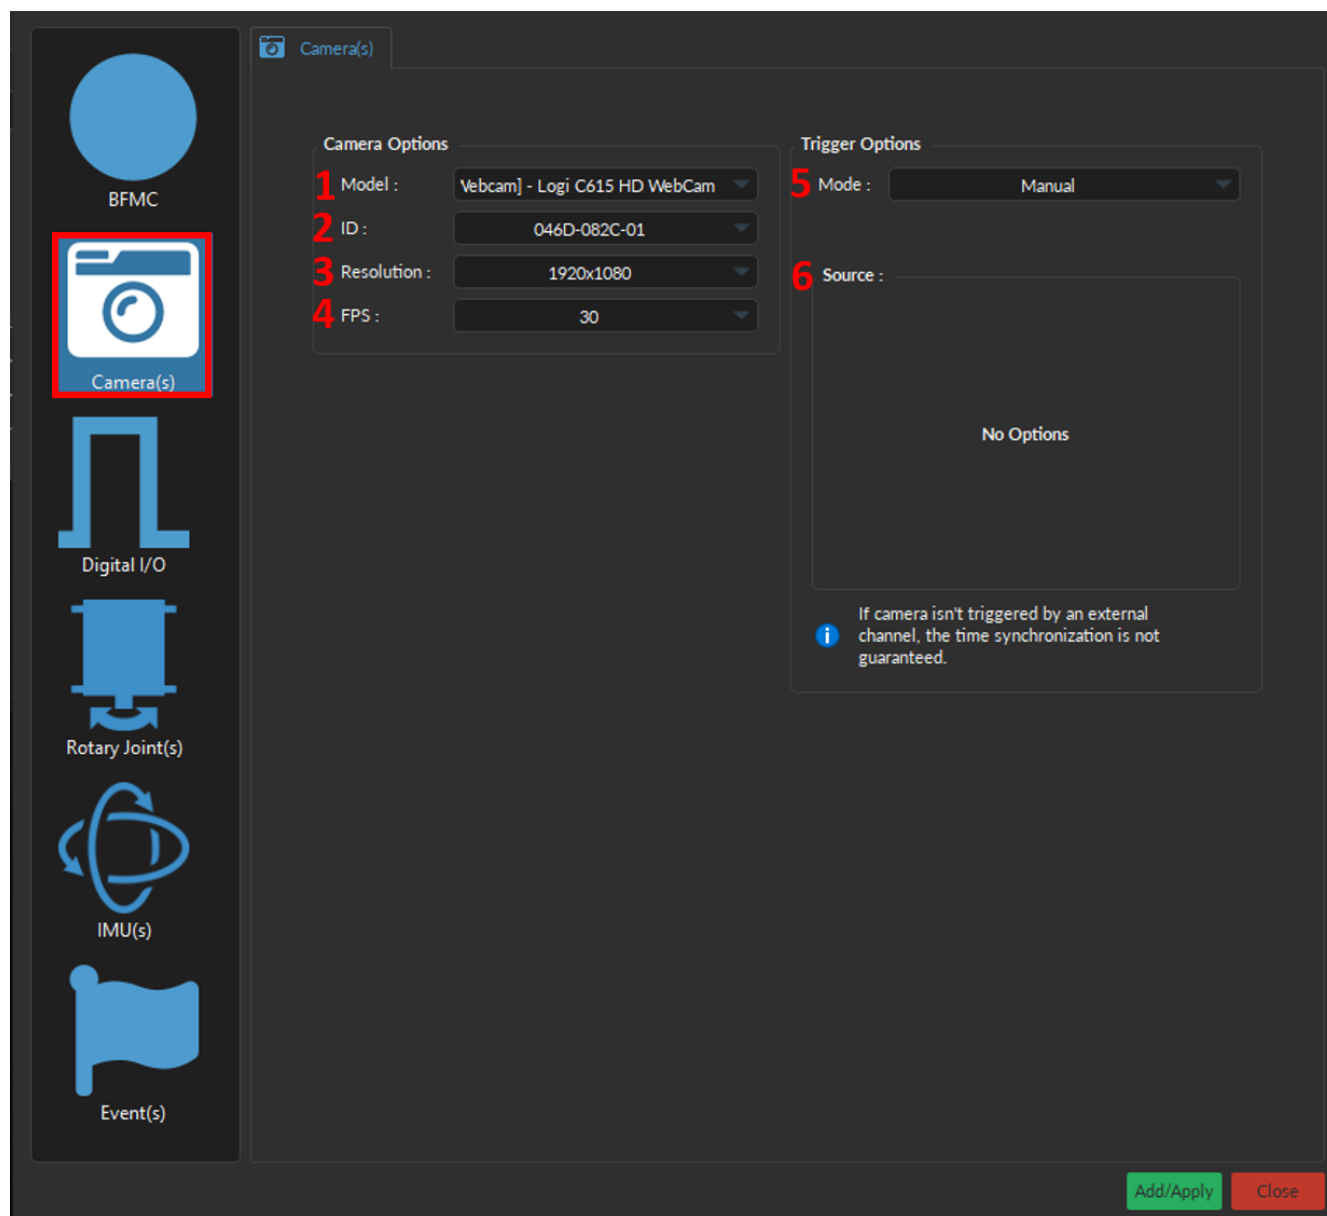

Figure 10.31: Channel(s) configuration window, Camera(s)
1. The **Model** (Fig. 10.31, 1) allows you to select the camera of choice based on the type of camera.
2. **ID** drop-down list (Fig. 10.31, 2) is used to select a camera based on its unique ID. The ID is beneficial when multiple cameras of the same model are required for the experiment.
3. The **Resolution** (Fig. 10.31, 3) is used to set the resolution of the image. The larger the number of pixels used for width x height, the better the resolution. Currently, image size can range between 160x120 to 1920x1080 pixels.
4. The **FPS** (Fig. 10.31, 4) is used to specify the frame rate of the camera (i.e. the number of images displayed per second). FPS can be any value between 5 to 30 for web cameras and up to 60 FPS for the *Doric Behavior Camera*.
5. The **Mode** (Fig. 10.31, 5) sets the type of trigger that will control the camera. Depending on the type of camera, at most three modes are available:
6. The **Source** (Fig. 10.31, 6 & Fig. 10.33) is only used for the **External (Preconfigured)** mode, and displays the **Digital I/O** channel with the preconfigured parameters that will be created at the same time as the **Camera Channel** (Fig. 10.33). For a detailed description of each Digital I/O parameter see Section 10.4.2. Briefly, key parameters include: